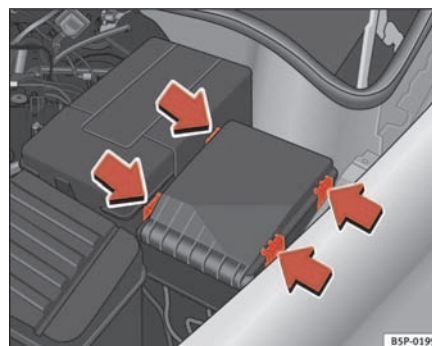

Fig. 153 Fuse box cover in engine compartment ▶
- Prise off the fuse cover in the engine compartment by pressing the tabs towards the centre of the cover ⇒ page 224, fig. 153.